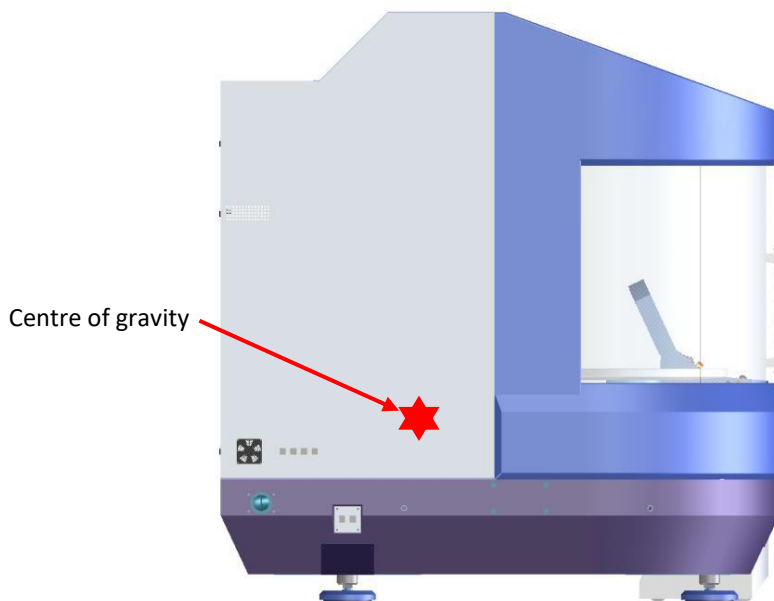

Figure 3 - Centre of gravity
- Note the centre of gravity shown in (Figure 3). Risk of Tipping Over!
ATTENTION: Please note the centre of gravity. See (Figure 3).
ATTENTION: Please note the centre of gravity. See (Figure 3 - Centre of gravity).